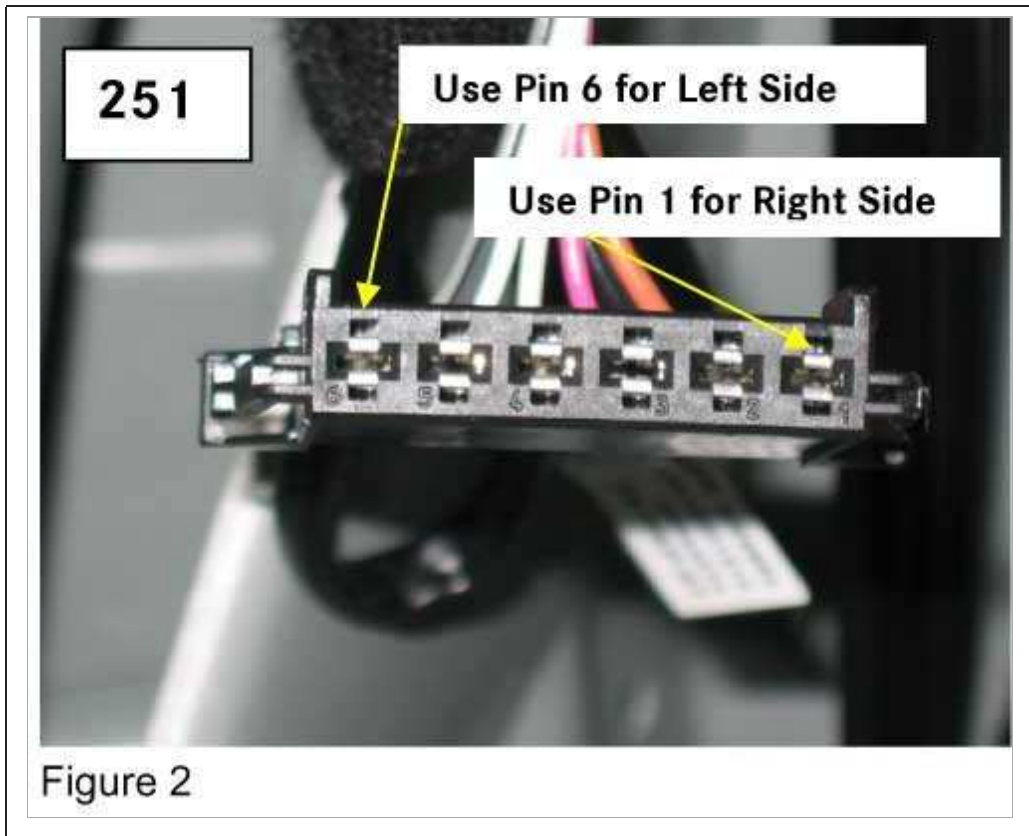

Figure 2
4. Remove the pin from the actuation line connector for the stop light (Figure 1 or Figure 2).